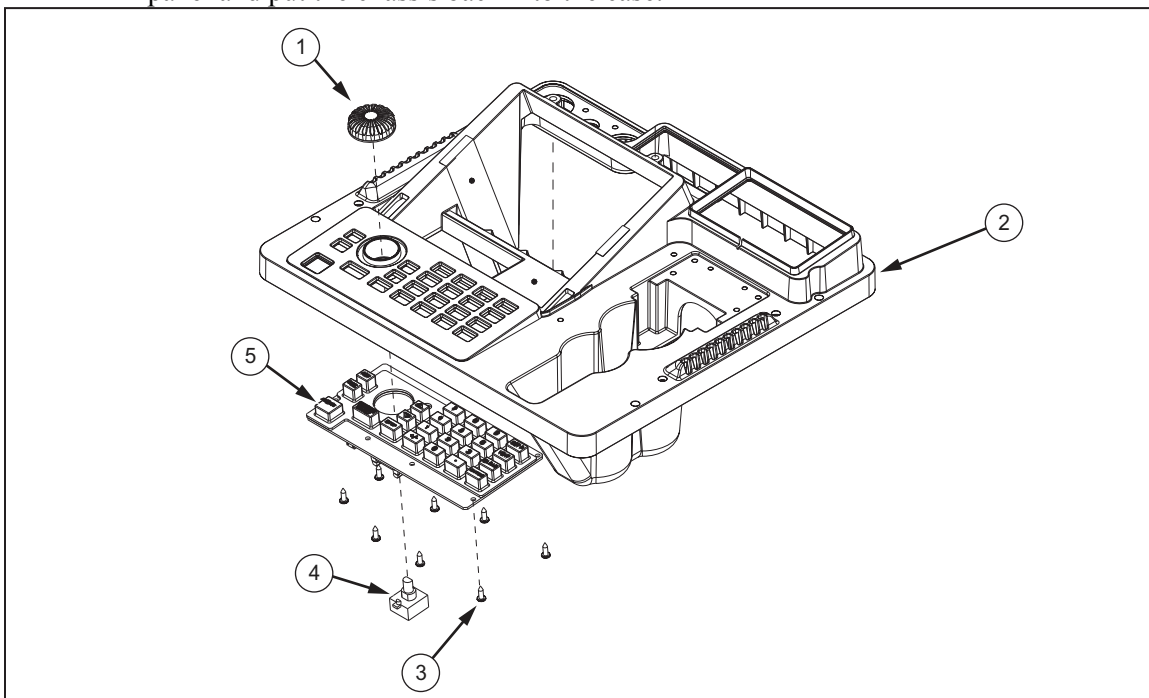

Figure 4-11. Keypad Replacement
Use the following instructions and reference Figure 4-11 to replace the keypad (5), encoder (4), or encoder wheel (1):